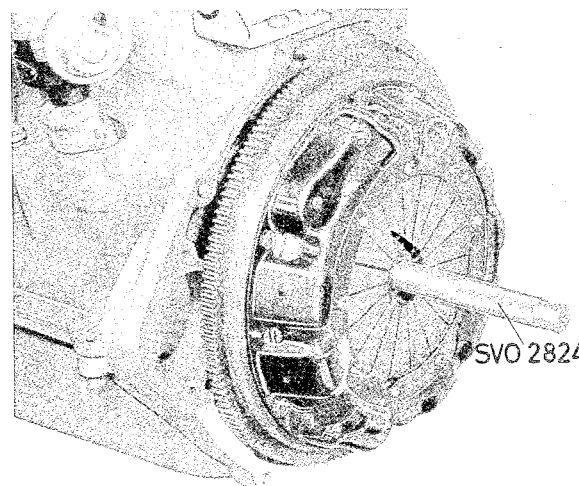

Fig. 4-8. Clutch installation
1. Set up the clutch plate (the longest side of the hub facing backwards) together with the clutch against the flywheel and insert the centering mandrel 2824 so that the guide journal on this center the pilot bearing in the flywheel, see Fig. 4-8.